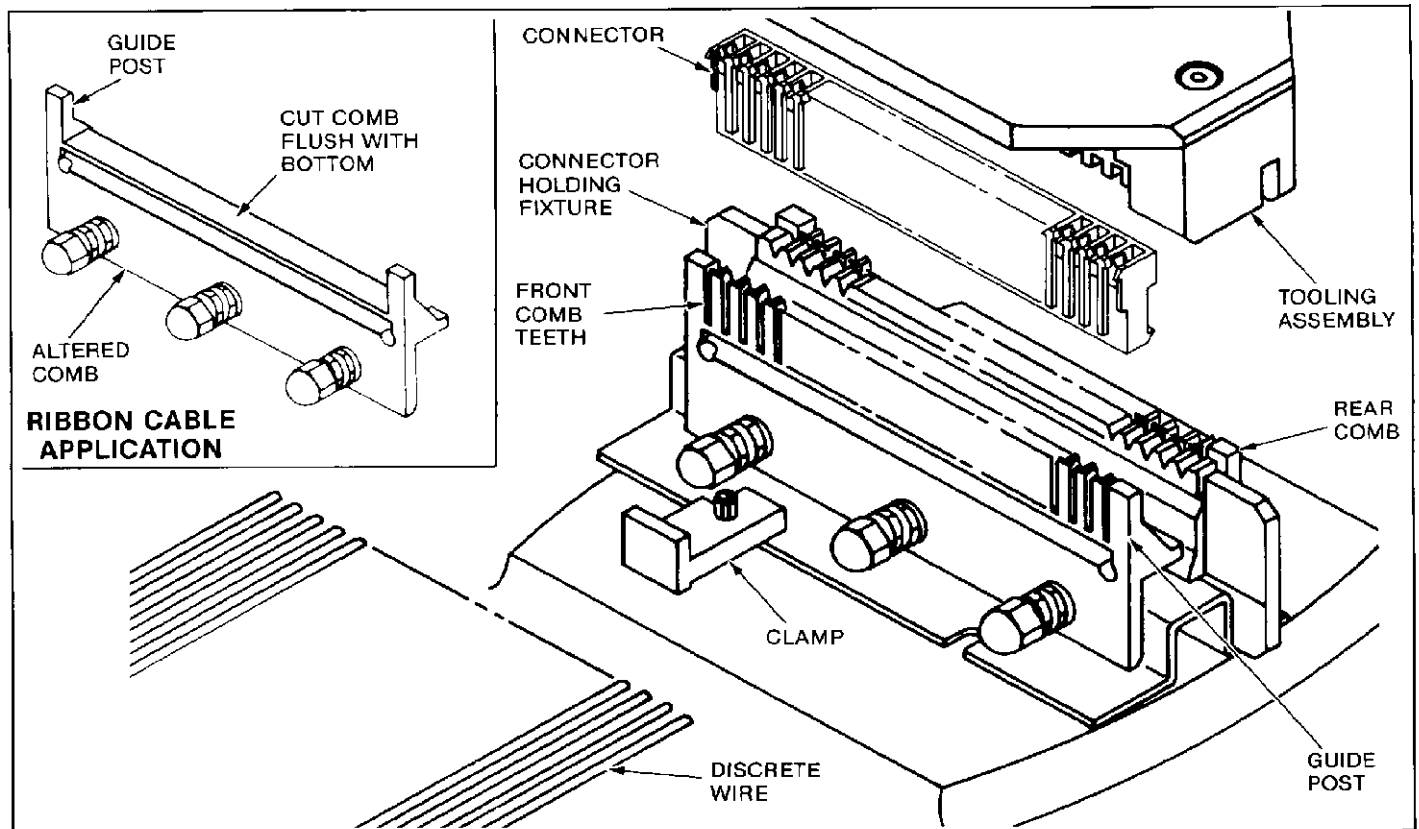

Fig. 4
- Spread connector holding fixture and insert connector into center of fixture as shown in Figure 4.
- Remove or cut off rear comb of connector holding fixture for use in feed-through applications. See Figure 4.